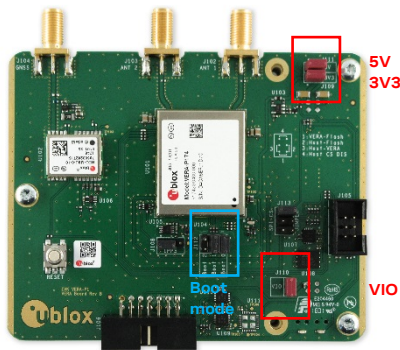

Figure 2: Jumper locations on the main board
1. Make sure that jumpers are placed on the current measurement pin headers on the main board as shown in Figure 2. The jumpers for 5 V, 3.3 V, and 1.8 V supply must be placed on the power supply board to use the on-board voltage regulators. The jumper for VIO voltage selection on the power supply board is set to 3.3 V by default. See the description on the back of the board for the jumper locations.